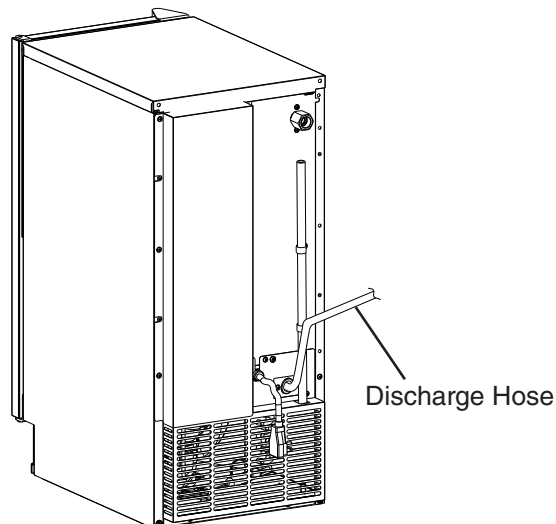

Fig. 34
- 7) Pour another 24 to 30 oz. (710 to 890 ml) of water into the appliance's ice storage bin, then completely restrict the discharge hose while the drain pump is operating. See Fig. 34. Pour more water into the appliance's ice storage bin until the appliance turns off. The drain pump will continue to operate. Check for leaks.